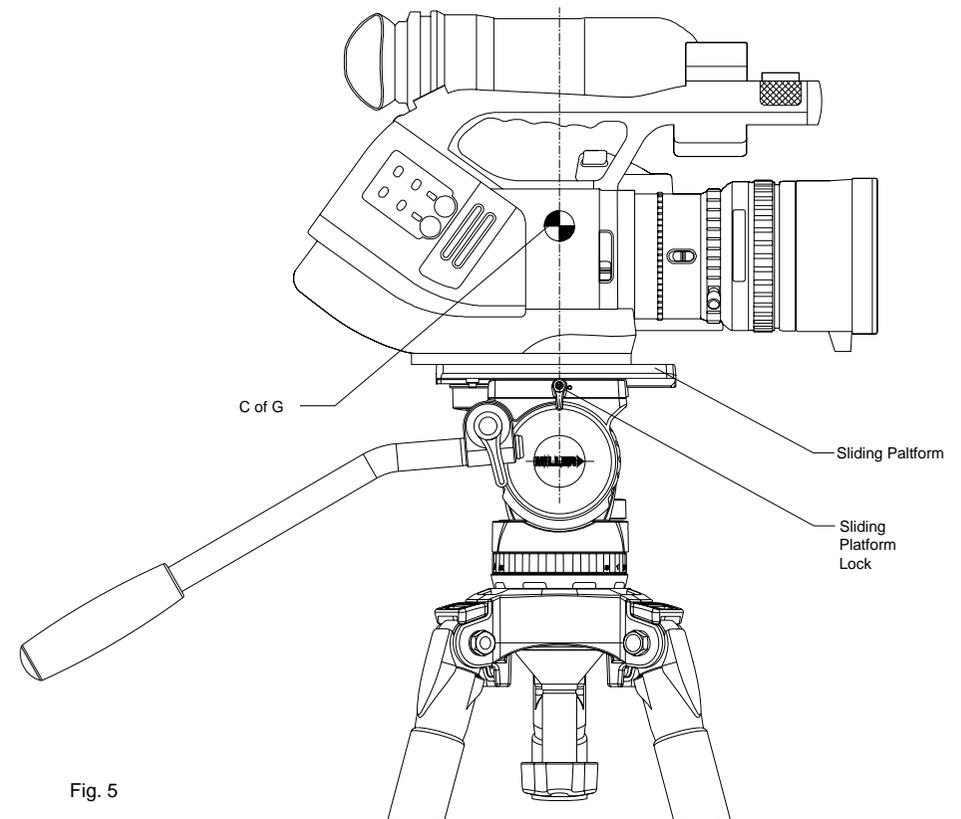

Fig. 5
- 2.6 Release the SLIDING PLATFORM LOCK and slide the SLIDING PLATFORM such that the camera's C of G is directly above the centre axis of the Fluid Head and tighten the SLIDING PLATFORM LOCK (fig.5). If this can not be achieved then reposition the CAMERA PLATE on the Camera or the QUICK RELEASE TRIPOD ADAPTOR – step 2.4. This will ensure that the system has maximum stability.